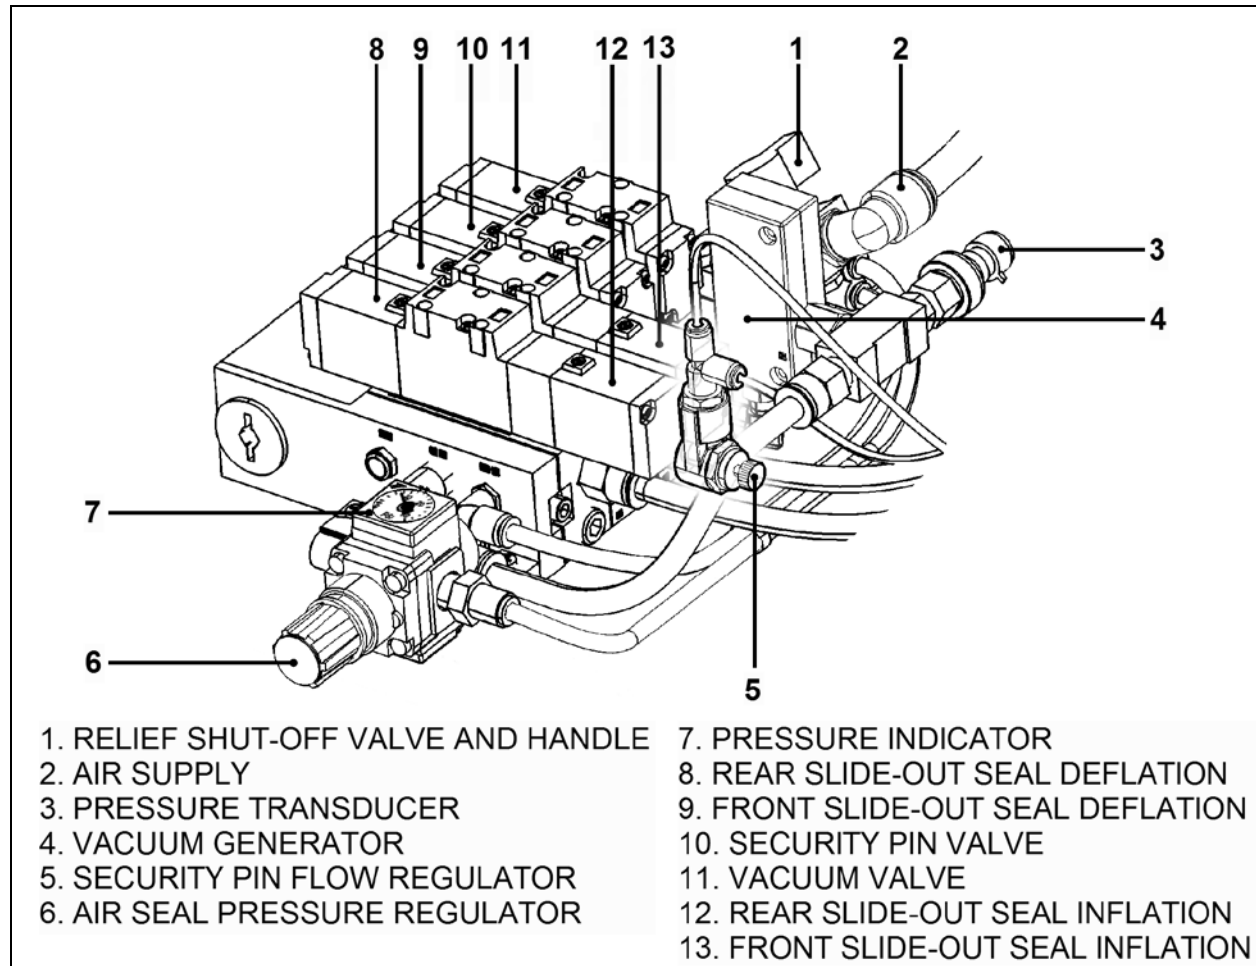

FIGURE 33: PNEUMATIC COMPONENT PANEL
The supply line for the pneumatic component panel (Item 2, Figure 33) is connected to the air
Make sure the inflatable seal is deflated when manually moving the slide-out during service maintenance. Deflate inflatable seals completely by turning the relief shut-off valve handle clockwise (see Figure 33).
1. Fully deflate the air seal by turning the shut-off valve clockwise (Item 1, Figure 33). Make sure the pressure indicator is at "0 psi".